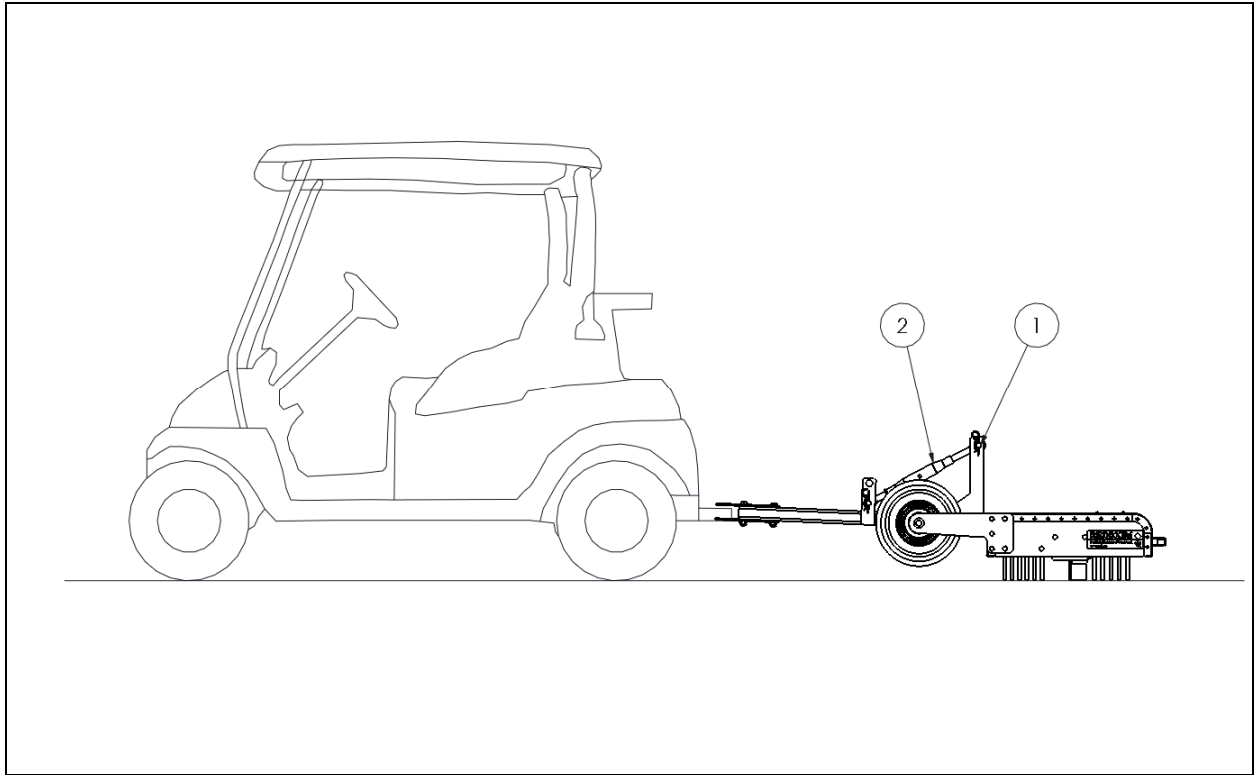

Fig. 9
4. Lift the top rod (2) and secure it with this pin (1) (see Fig 9).
5. Now adjust the top rod (2) so that the machine is level and resting on the surface, without exercising pressure on the vehicle.